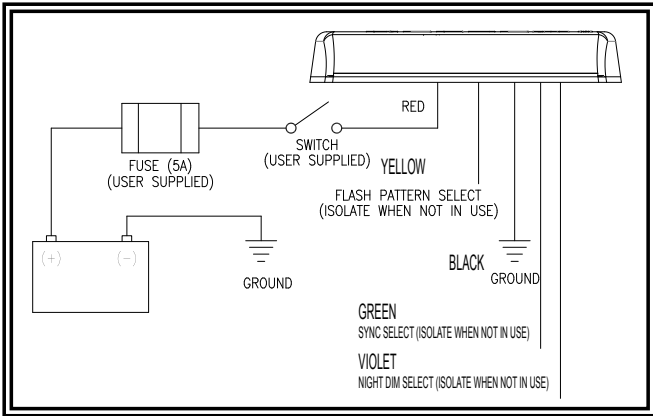

Figure 2
7. Connect the wires as shown in the wiring section (see Figure 2).
The wiring for the permanent mount minibar is as shown in Figure 2. All wiring should be a minimum of 18AWG. The positive line must have a 5 amp fuse, as shown. A switch may be used to control the on/off function.